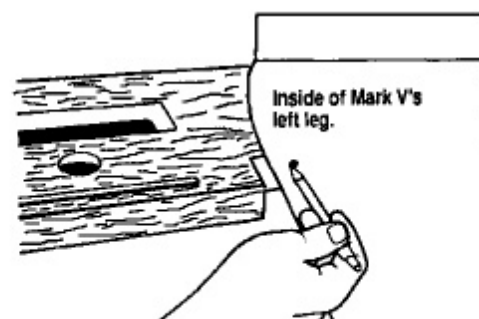

Fig. 2
3. See Fig. 2. Lift the shelf's left "notch" so it is centered in the top hole of the left front leg. Working from inside of the Mark V's left leg, use a pencil to mark the drill hole.
5. Place a flat washer (2) on a lag bolt (1). Use the 7/16" wrench to attach the shelf with the lag bolt. Tighten the lag bolts on both the left and right sides.